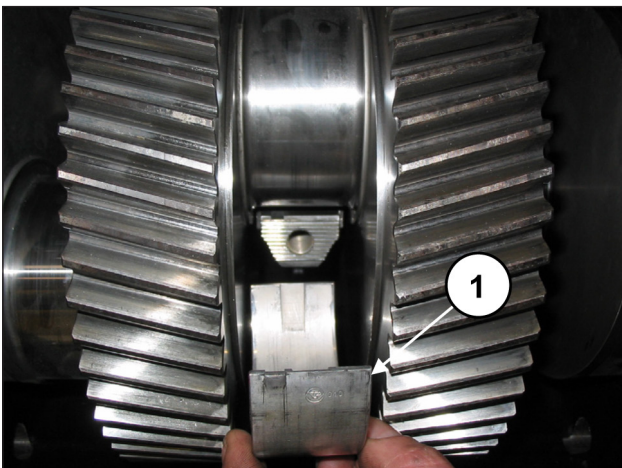

Fig. 81
Insert the upper half-bearings between the con-rods and the bend shaft (pos. ①, Fig. 81).